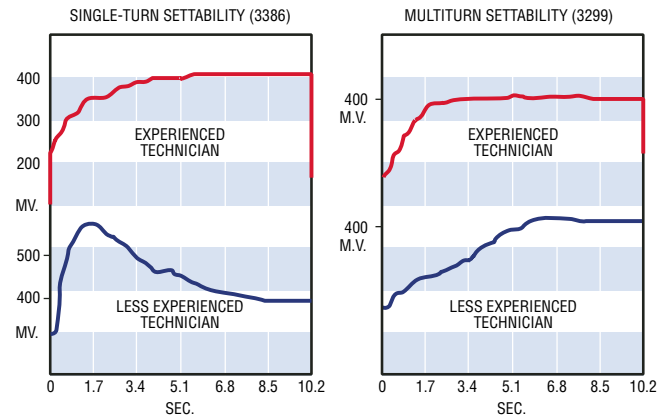

Figure 2.
Setting accuracy is better with a multiturn unit than with a single-turn. This is especially true when the speed of setting is also a requirement as on a production line (Figure 2).
- (1) Feathered edges
- (2) Concave fillet
- (3) Fillet appears smooth
B) Unacceptable (see Figure 2)